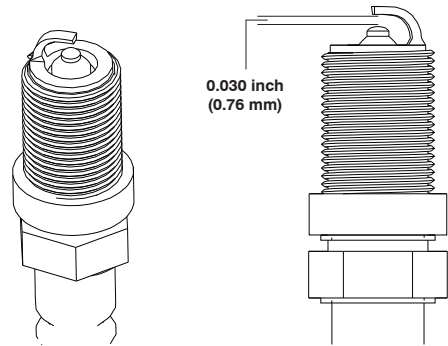

Figure 30
18. Set the gap on the plug to 0.030 inch (0.76 mm) (Figure 30).